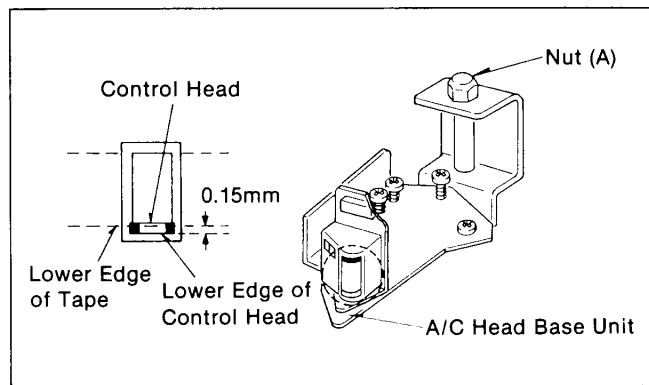

Figure M13
2. Adjust the Nut (A) as shown in Figure M13 by turning the Nut (A) clockwise to lower the head, and counter-clockwise to raise it.